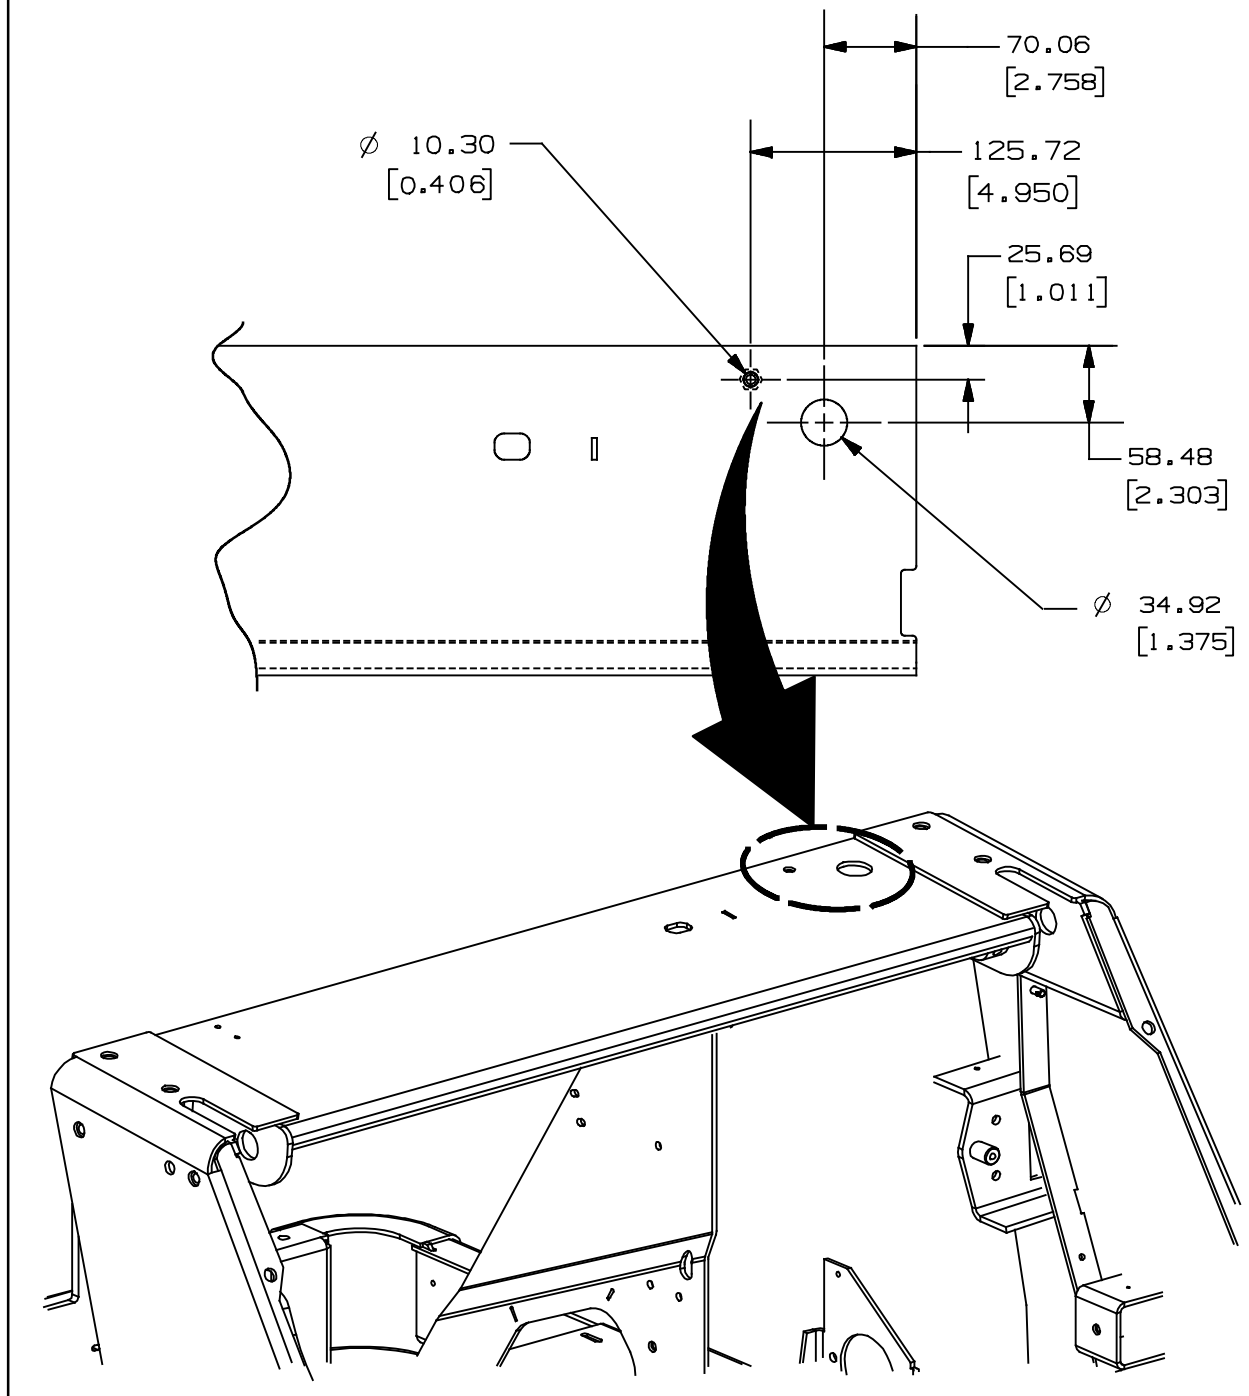

FIG. 2
- 2. Machines without location for mounting front spotlight mounting bracket (3) on front lintel only:** Measure and mark the location for the 0.406 in. (10.30 mm) hole to be drilled into the front lintel. (Fig. 2)
- 3. Machines without location for mounting front spotlight mounting bracket (3) onto front lintel only:** Drill a 0.406 in. (10.30 mm) hole into the front lintel. (Fig. 2)